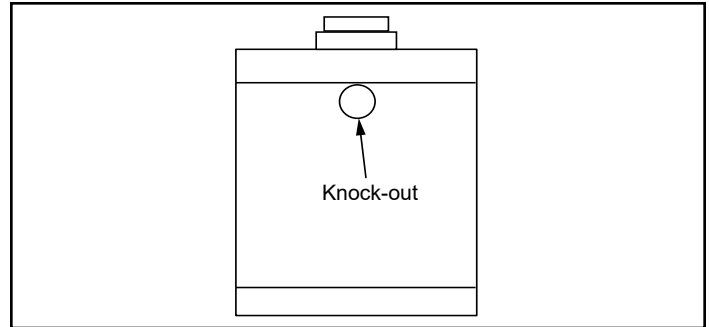

Figure 1 - Pre-punched knock-out in rear panel.
2. Check for the presence of a pre-punched knock-out in the center top area of the rear panel of the stove, Figure 1.